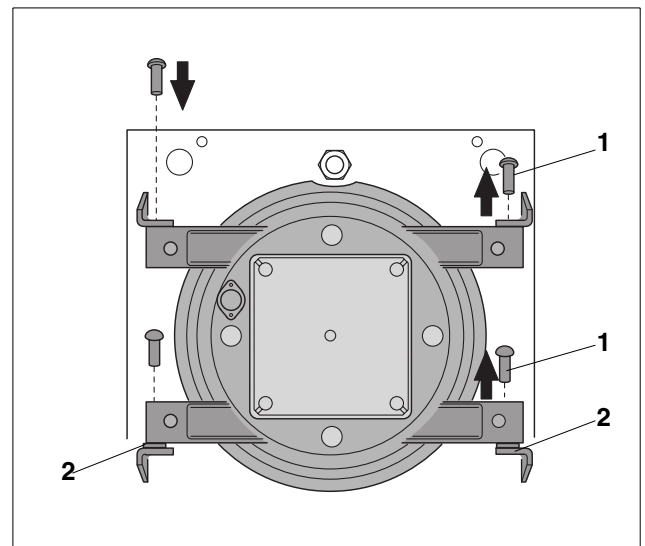

Fig. 18 Changing the swing direction of the burner door
- Remove the hinging bolts and washers from the hinges by moving them upward (Fig. 18, **Item. 1**).
- Install the washers and hinging bolts on the opposite side (Fig. 18, **Item. 2**). Make sure to install the washers!